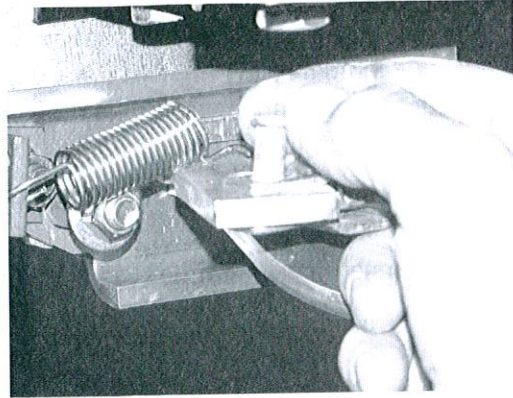

Fig. 11 - Attach brake cable to lever
14. Attach cable end to hole on the end of brake actuation lever with original clevis and hitch pin. (See Fig. 11) You may need to loosen the cable at the pedal linkage to have enough slack to install pin.